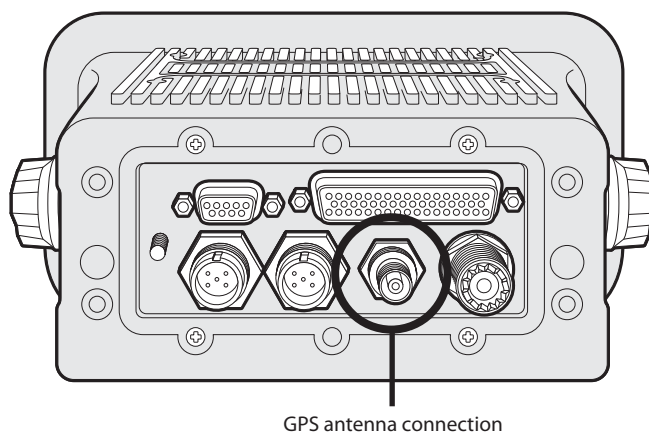

Figure 34 Mounting the AIS transceiver
- The transceiver is supplied with four self tapping screws for attachment of the AIS transceiver to a suitable surface using the trunnion bracket. Please refer to Figure 34 for guidance.